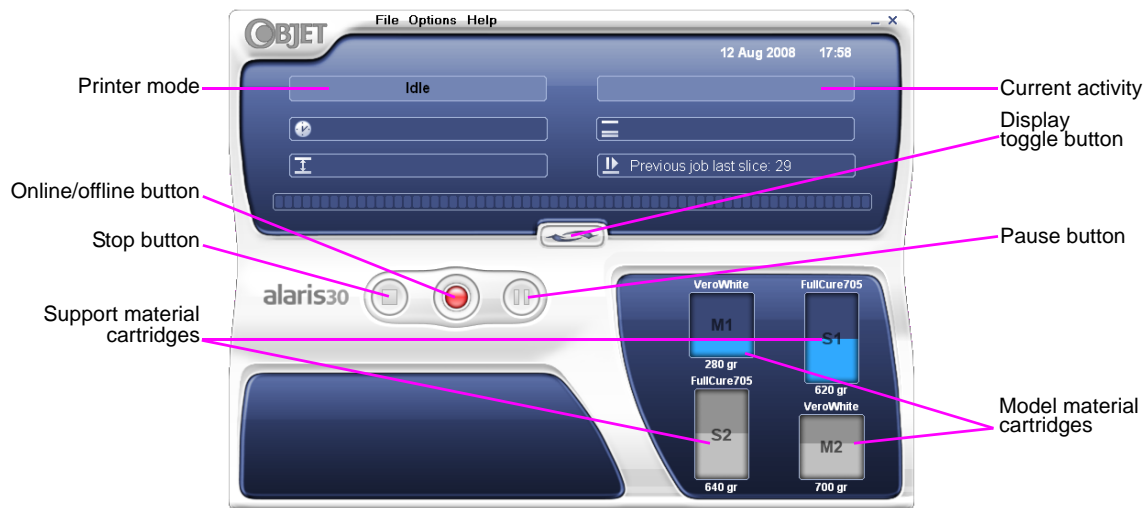

Figure 7-3: Alaris30 interface
The Alaris printer interface screen opens (see figure 7-3). All monitoring and controlling of the Alaris printer is done from this interface.
Alaris printers use two cartridges of model material and two cartridges of support material, each weighing one kilogram when full. A graphical representation of the cartridges and their current weight appears in the printer interface (see figure 7-3).
4. Check the Alaris printer interface to make sure that the new cartridge is detected and that its weight is displayed (see figure 7-3).
2. Make sure that there is sufficient model and support material loaded in the printer, as indicated in the Alaris printer interface (see figure 7-3). You may want to replace the cartridges of model and support material currently loaded in the printer to avoid the need for replacing them during printing.
1. Switch the printer to online mode by clicking the red button at the bottom of the Alaris printer interface (see figure 7-3 on page 7-3).